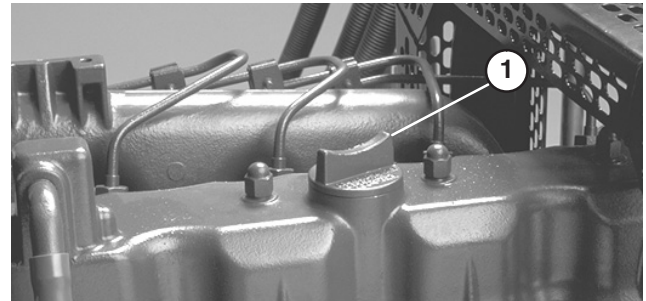

Figure 4
4. If oil is below FULL mark, remove fill cap (Fig. 4) and add oil until level reaches FULL mark. DO NOT OVERFILL.